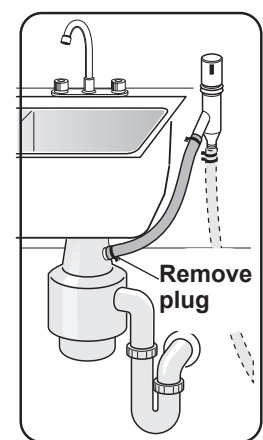

Figure 11
- 4 To a disposer dishwasher drain connection through an air gap, as shown on **Figure 11**.